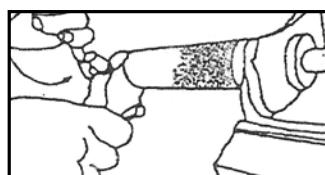

FIG 3
Press the pressure switch(3) to continually release the pressure into the pressure tube, then please simply turn around the brake-hat with the lever(4). See FIG 3 (In advance to make sure the correct direction of right or left turn the lever in order to fix the brake-hat. In addition, press the pressure switch makes sure that the tool has enough pressure to avoid slip off.